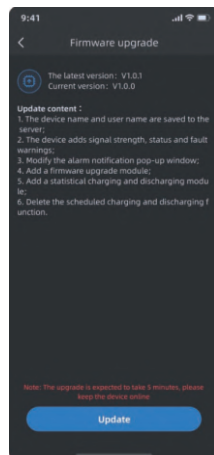

Figure 4
4)Figure 4: When a new firmware version is discovered, the update content will be displayed. Click "**Upgrade**" to start the upgrade process.